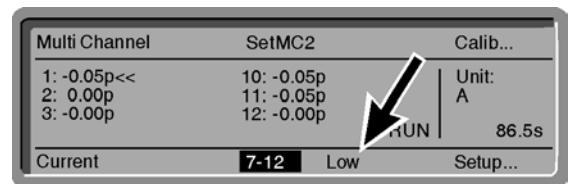

Figure 7-8: "Low"/"High" for adjustment of the measuring range
- To change the measuring range, position the cursor on "Low" or "High" (Figure 7-8) and press ENT.